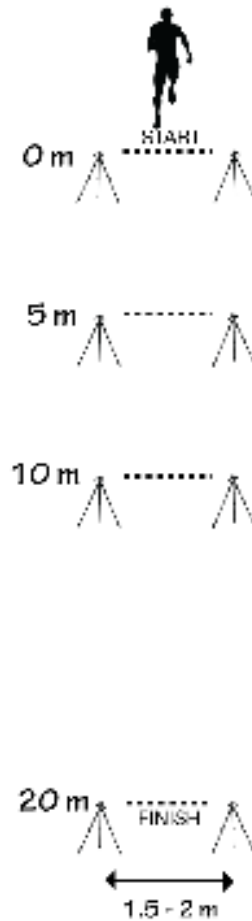

Figure 1. Set-up for the 20 m sprint test showing intermediate timing gates at the 5 and 10 m lines and a finish gate at 20 m.
- 4) Set timing gates at 0, 5, 10 and 20 m intervals– see Figure 1.